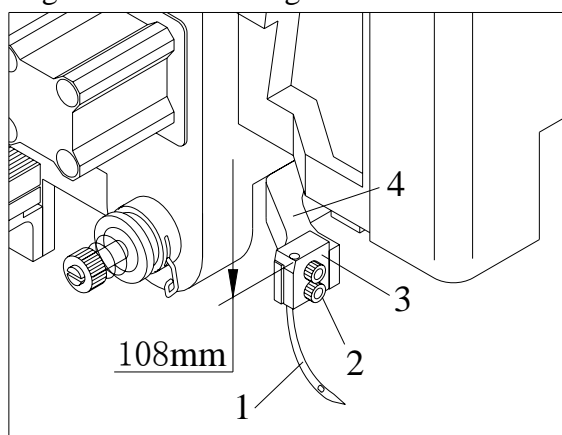
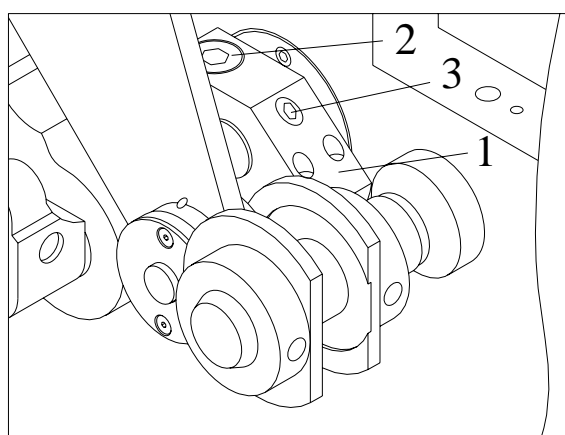

Fig.5
Fig.6
4.1 Needle replacement (Fig.5)
4.2 Set the highest position of the needle (Fig.5 ,Fig.6)
To ensure the highest position, remove the upper cover and the head cover, turn the pulley in the correct direction, letting the needle bar 4. comes to it's highest position, if the distance from the threading hole of the needle clamp 3. to the upper plate of the machine (upper cover is removed) is 108mm (as shown in Fig.5) then it's position is right else is wrong (Fig.5).
To adjust this position, proceed as follows: (Fig.6)
- Turn the needle bar 4. (Fig.5) to the correct position as described above.